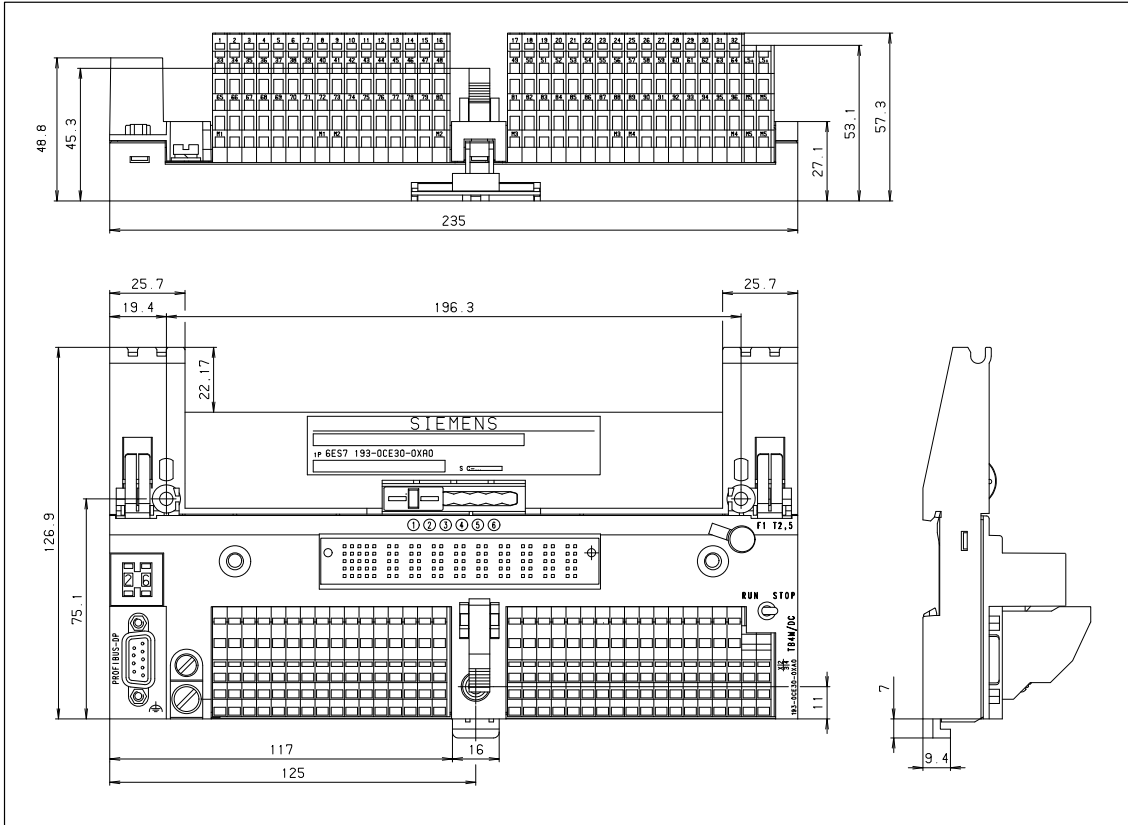

Figure 7-13 Dimensional Drawing: Terminal Block TB4M/DC (Spring-Latch Terminal)
**Dimensional Drawing** Figure 7-13 is a dimensional drawing of the TB4M/DC (spring-latch terminal).